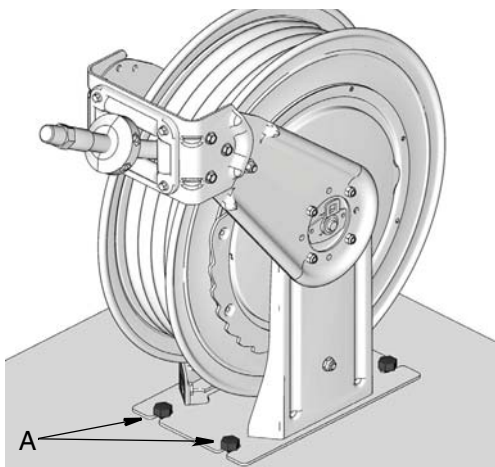

FIG. 3
3. Remove reel from service by removing 4 screws (A) holding reel base to mounting surface (FIG. 3)